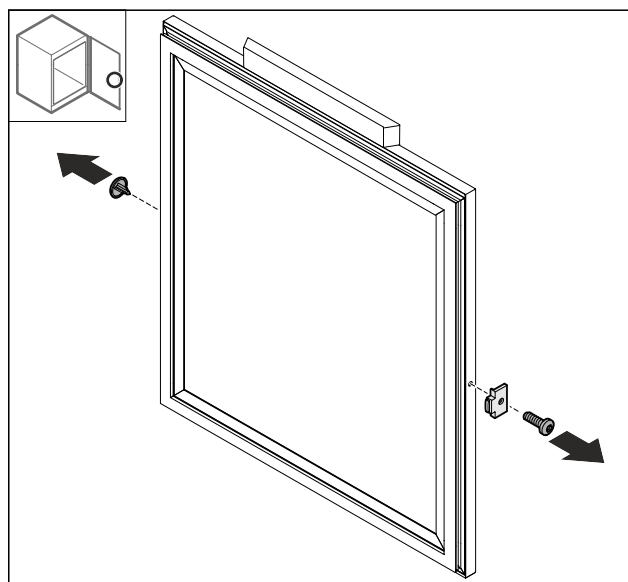

Fig. 45
- Remove the Fig. 45 (1) cover.
- Pull off the door stopper Fig. 45 (2).